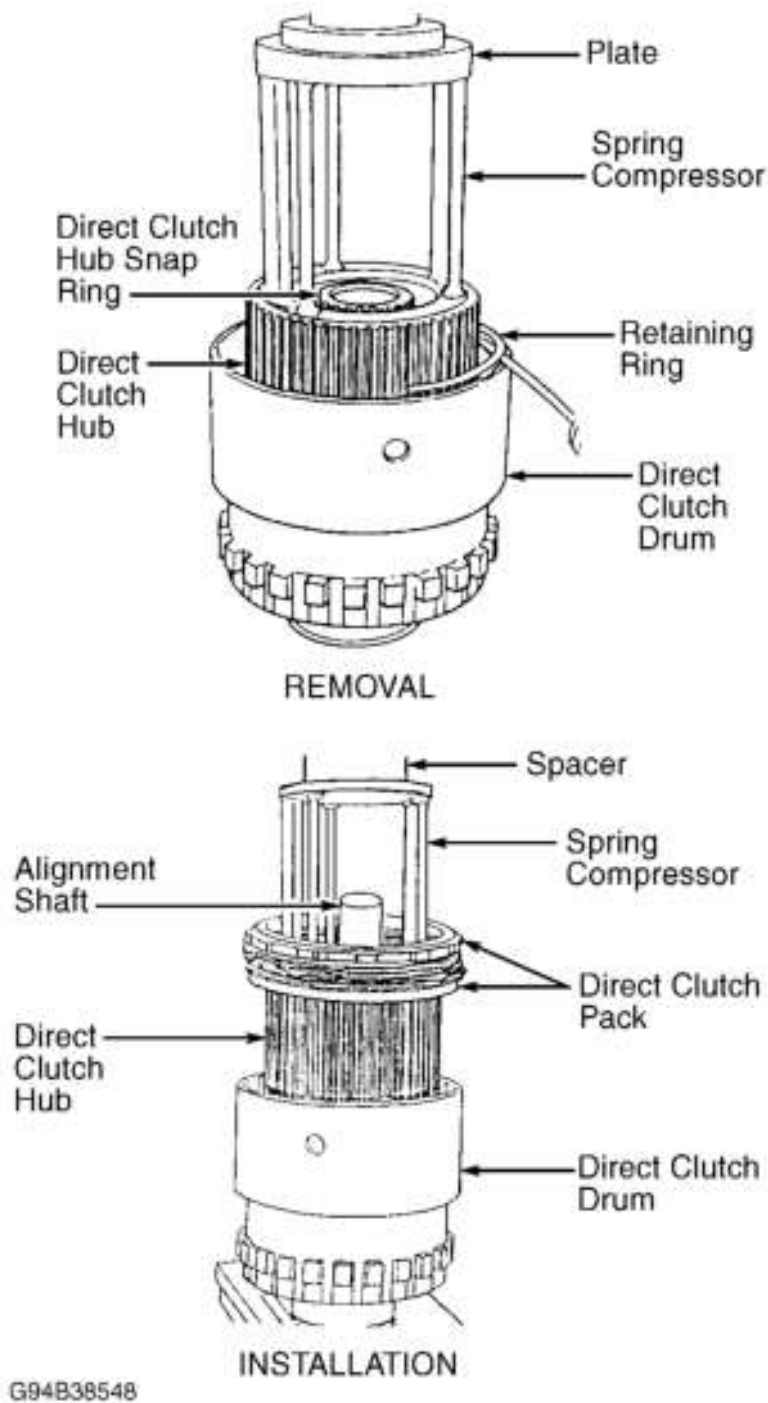

Fig. 44: Removing & Installing Direct Clutch Hub & Direct Clutch Spring
2. Position Spring Compressor (6227-1) on direct clutch hub. See **Fig. 44** . It may be necessary to install plate on top of spring compressor to provide extra press travel.
3. Slowly compress direct clutch spring. Remove retaining ring for direct clutch pack from outer edge of direct clutch drum. Remove direct clutch hub snap ring located at center of direct clutch hub. See **Fig. 44** . Slowly release press. Remove spring compressor.
14. Install spring compressor and spacer on top of direct clutch hub. See Fig. 44 . Slide direct clutch pack